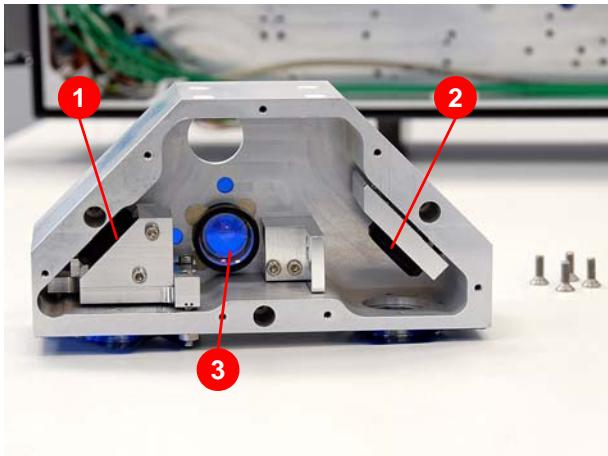

Figure 7.49 Deflecting mirror/lens in front of the internal power measurement or absorber
13. Check the cleanliness of the deflecting mirrors (1 and 2) (Figure 7.49) and lens in front of the internal power measurement or absorber (3) in the deflecting unit. Clean as needed.